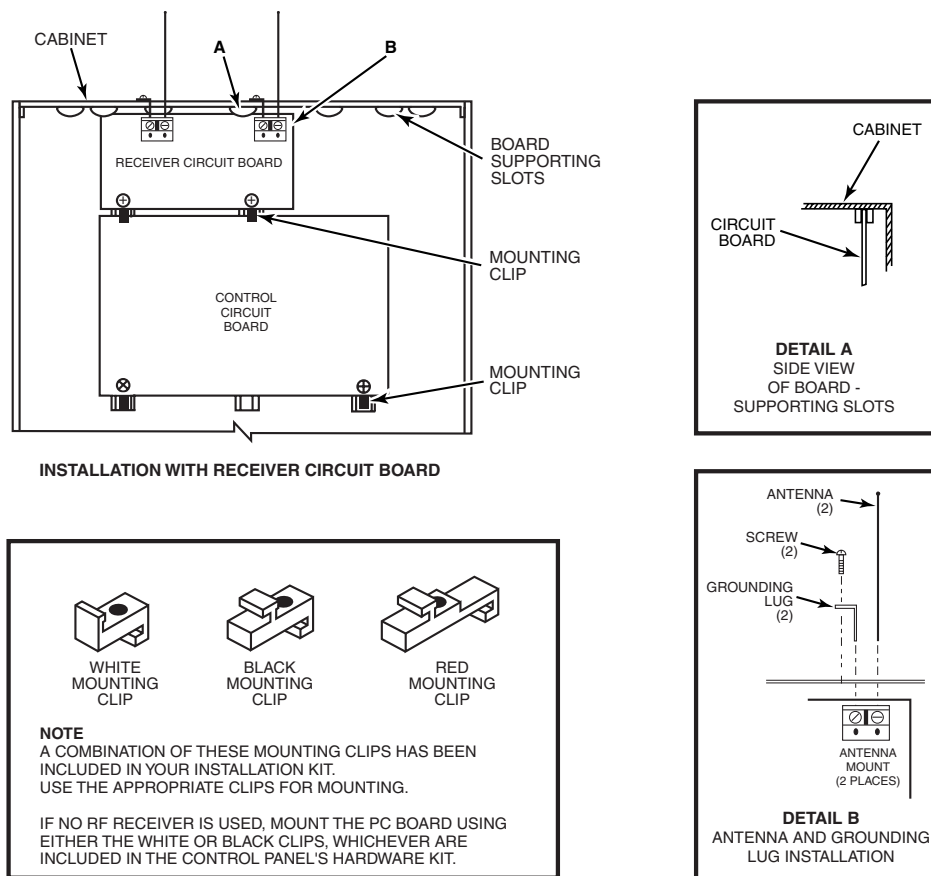

Figure 3. Mounting the PC Board and RF Receiver
1. a. Remove the receiver board from its case, then insert the top of the board into the slots at the top of the cabinet, as shown in Detail A in Figure 3. Make sure that the board rests on the correct row of tabs.